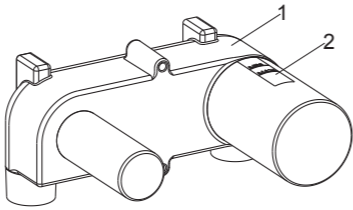
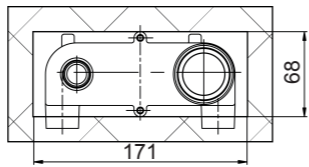

Fig.1
Fig.2
The out surface of the finished wall should be between the MAX and MIN marks on the protectors(2) as Fig.1 shown. The size of opening in finished wall is as Fig.2 shown.
Connect Rc1/2" hot and cold supplies to the body as Fig.1 shown. Connect hot supply to the left with red mark.